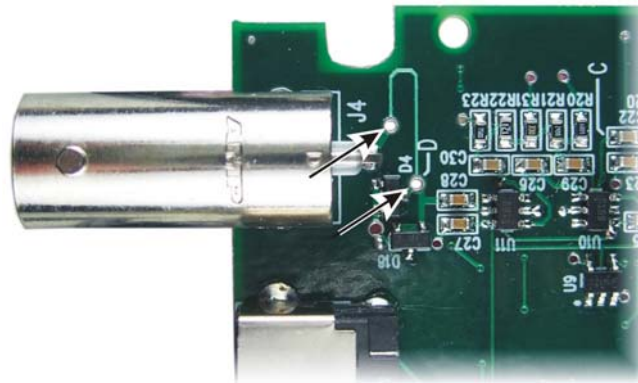

Figure 3. Fusible Trace Solder Pads.
4. Locate the solder pads at each end of the thin trace near the RF OUT connector (J4 on the pc board) shown in Figure 3.